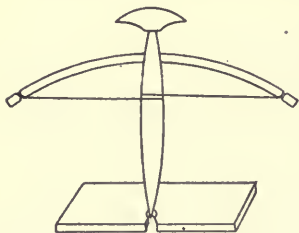

FIG. 120.—Boy-scout method of making fire by friction.
14. The turbine in the City of Tacoma Power Plant (see Fig. 120) uses a head of 415 ft. 145 cu. ft. a second pass through the turbine. Calculate the horse-power.
Fourth, heat is also produced whenever *mechanical energy* of motion is overcome, whether it be by *friction*, *concussion*, or *compression*. Friction *always* results in the production of heat, as when we warm our hands by rubbing them together. When friction is excessive, such as in the case of a heavy bearing not properly oiled, the bearing may get very hot. This is the cause of the “hot box” on a railway car. Friction may produce heat enough to set wood on fire. Some fires in mills are believed to be due to this cause. Every *boy scout* must learn how to produce fire by friction. (See Fig. 120.) *Concussion* may be illustrated by the heating of a piece of metal by hammering it, while the compression of a gas always makes it warmer, as those who have used a bicycle pump have observed. The production of heat by compressing a gas is illustrated by the “fire syringe” (Fig. 121). This consists of a glass tube with a tightly fitted piston. A sudden compression of the air contained may ignite a trace of carbon bisulfid vapor.